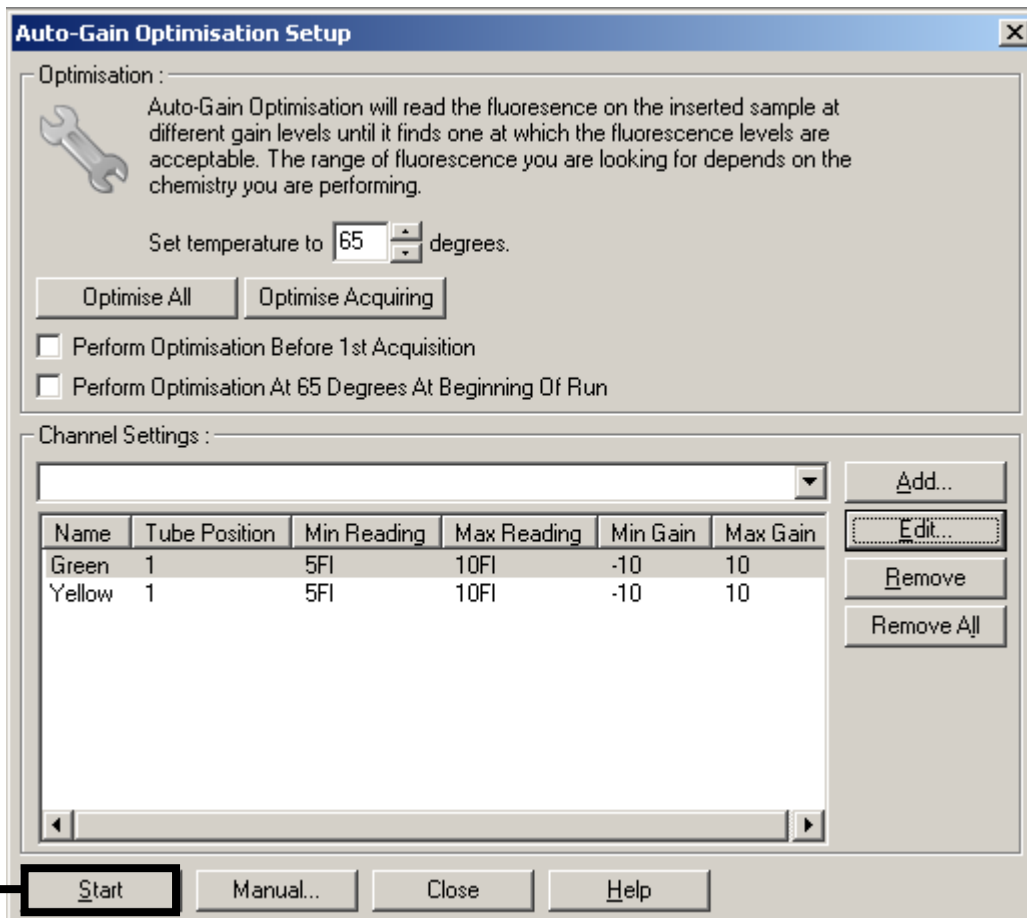

Figure 13. Starting the gain optimization.
11. Click "Start" to begin the gain optimization for the first *artus* assay (Figure 13).